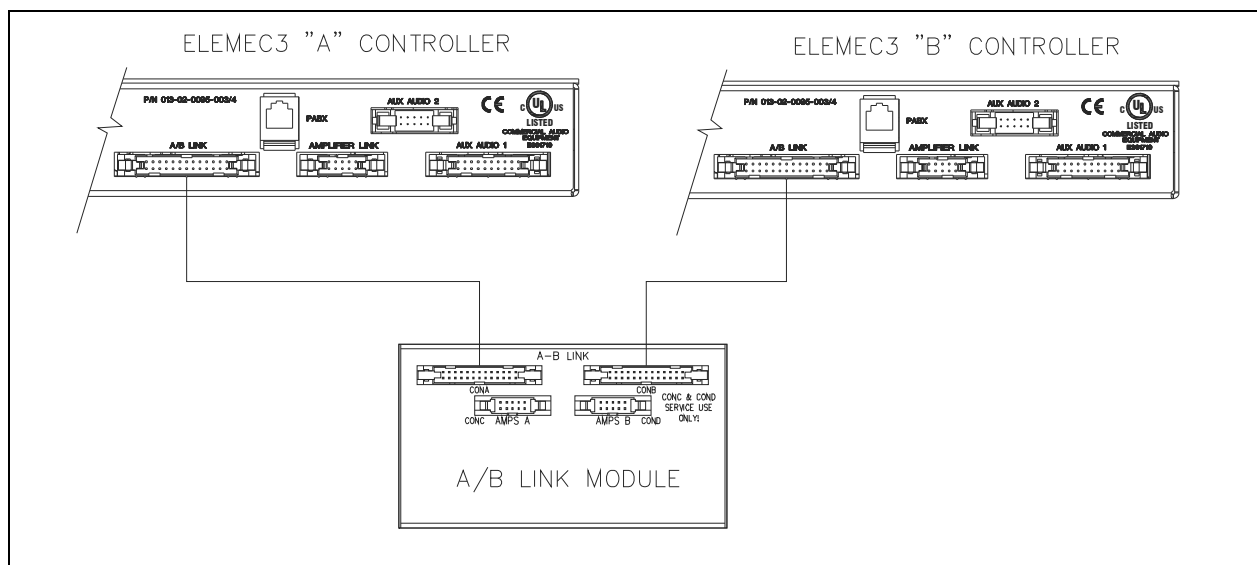

Figure 9. System Controllers to A/B Link Connections
In duplicate (A/B) and hot standby (N+1) type systems, connect the A controller and the B controller via the A/B LINK module per the drawing below (see Figure 9).
2. Install a second IDC ribbon cable between the A/B LINK header of the B controller and header CONB of the No. 999-02-3003-00X A/B link interface PCBA (see Figure 9).